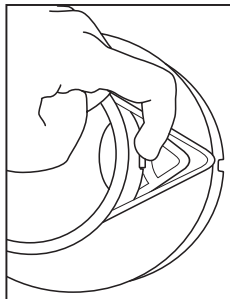
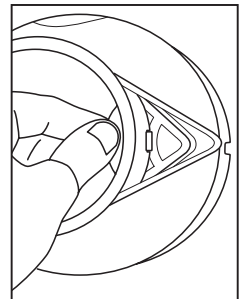

FIGURE 4a
FIGURE 4b
3. Remove the Scale Filter from inside the Kettle by pressing down on tab on the front of the filter inside of spout. (See Figure 4a). Pull up and out from the Lid Opening. (See Figure 4b). Rinse under running water and use a soft brush if necessary (do not use a metal brush). Replace Scale Filter.